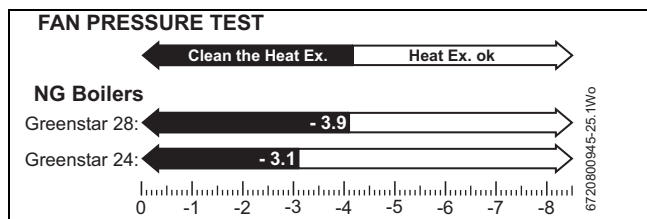

Fig. 65 Fan pressure readings
- ▶ The pressure reading will be negative, refer to fig 65